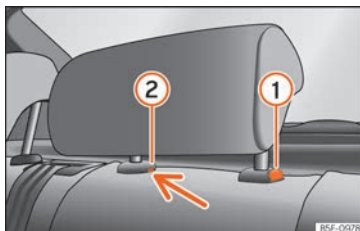

Fig. 150 Rear centre head restraint: release point.
- To set the head restraint lower down, press the » **Fig. 150**  button and move it downwards.